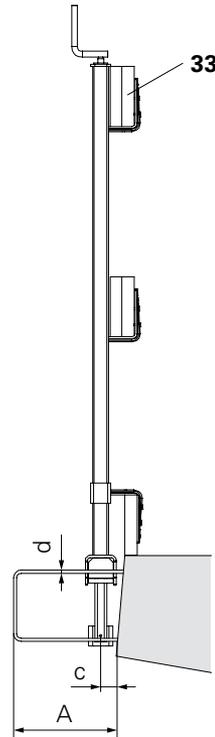

Fig. C4.03
* Values are valid only in compliance with the boundary conditions in Table C4.02 and Fig. C4.03